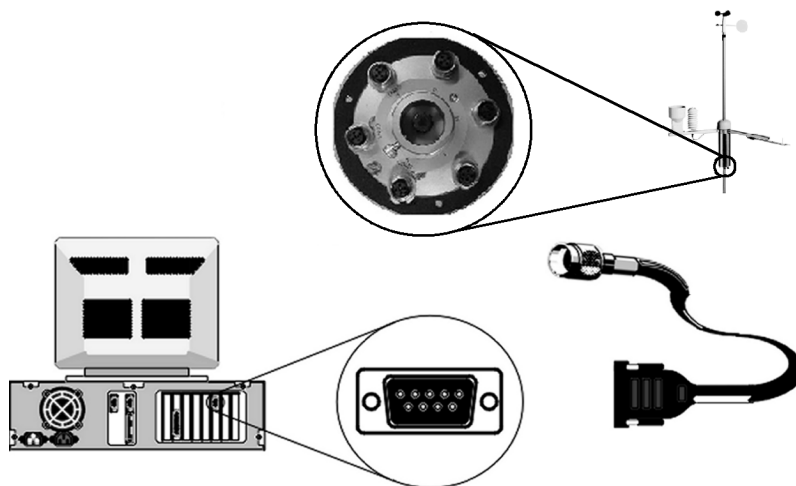

Figure 104 Connecting the Terminal Cable
1. Connect the provided terminal cable (QMZ101) to the **COM0** connector in the bottom plate of the tube and to an available COM port on your PC. See Figure 104 on page 112.